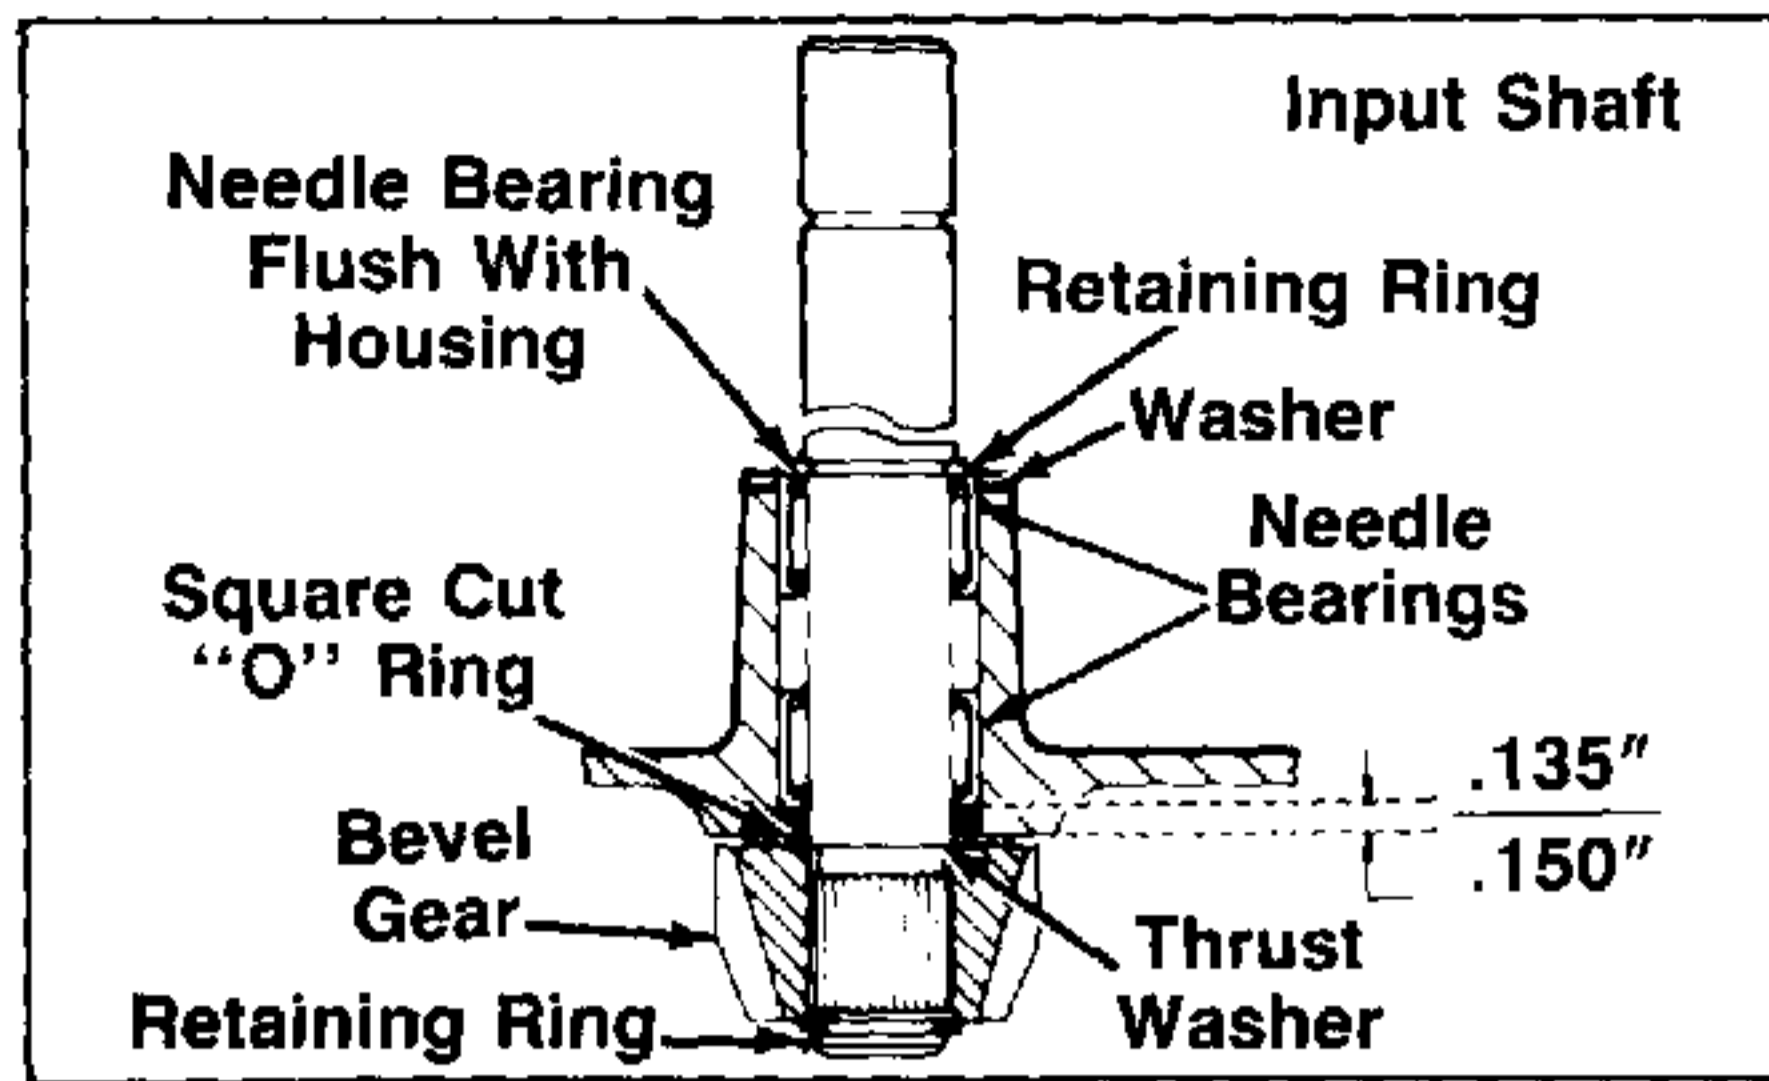

FIGURE 22.
- Remove retaining ring on bevel gear end from input shaft, remove bevel gear and pull shaft through case. The square cut "O" ring must be replaced, if removed. See figure 22.
Tool Part No. TC-670251 is used for removal and installation of needle bearings for the input shaft. The needle bearing on inboard side is installed .135/.150" below flush. See figure 22.
- Apply grease between bearings and install and secure the input shaft and bevel gear in the cover. See paragraph 10 under "DISASSEMBLY INSTRUCTIONS" and reverse the order. See figure 22.